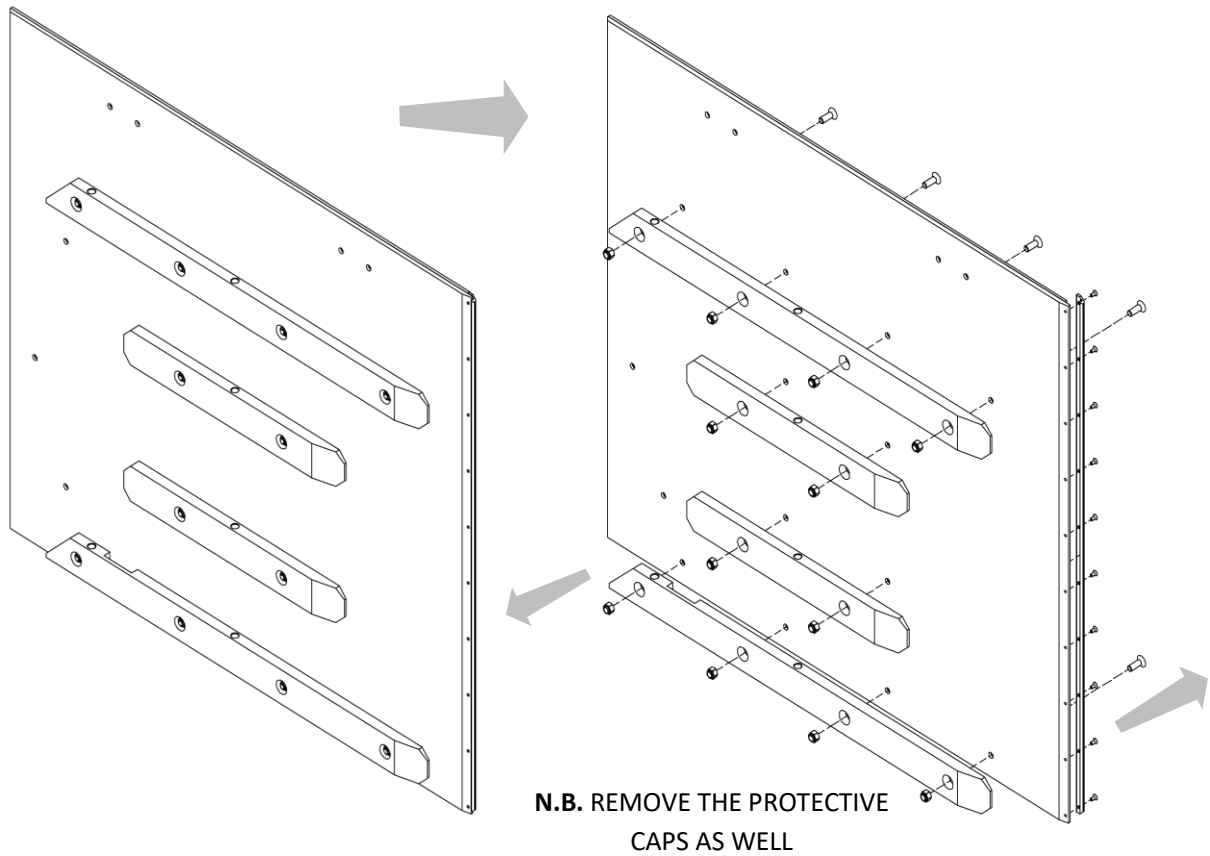

Figure 71
3. Separate the fastening plates from the panels after unscrewing the screws and nuts (see *Figure 71*), also taking care of any shims placed between the plates and the panel itself.